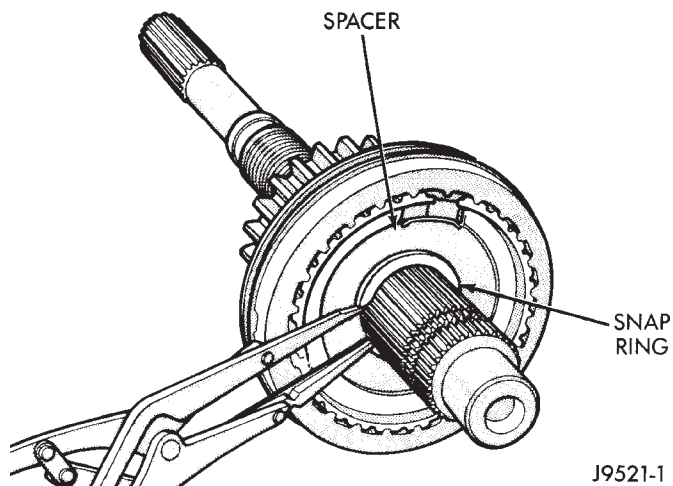

Fig. 13 Hub Snap Ring And Spacer Removal
(22) Remove hub snap ring and remove spacer if equipped (Fig. 13).